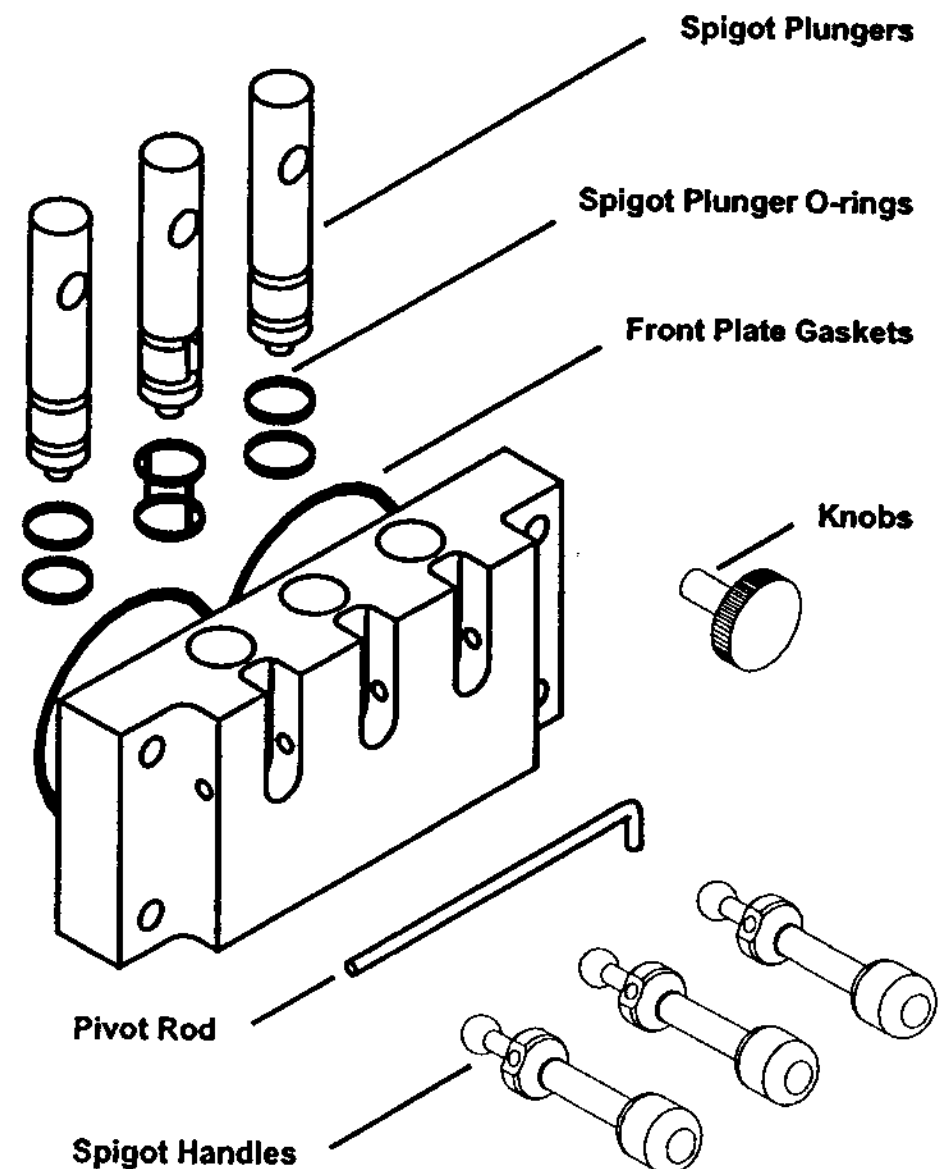

Fig. 14
10. Place all loose parts including the front plate, all front plate components (Fig. 14) and all dasher components in a three partition sink filled with the following solutions: